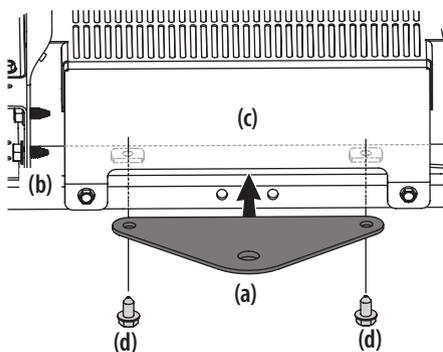

Figure 14
1. Slide the hitch plate (a) in between the frame (b) and the rear cover (c) on your riding mower. See Figure 14.
2. When the holes in the hitch plate (a) and the frame (b) are aligned, install the two hex screws (d) up through the frame (b) and into the hitch plate (a). See Figure 14.